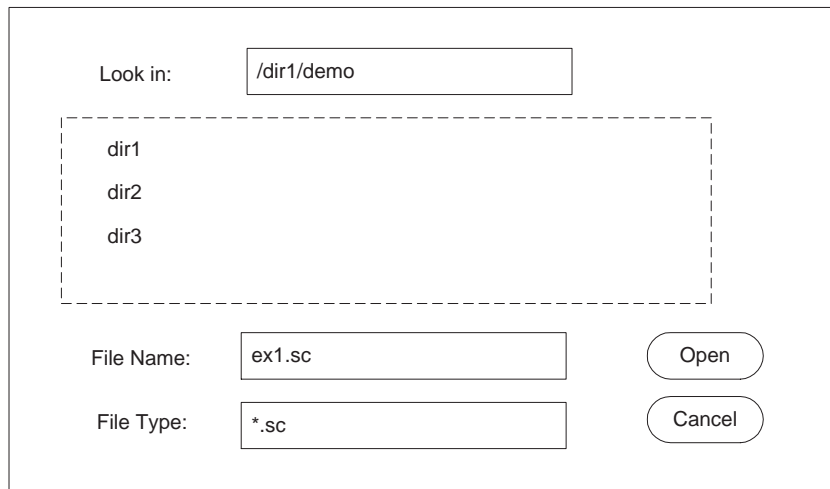

Figure 20: File Open dialog.
- (a) Selecting *Main :: File ⇒ Open* will pop up the File Open dialog in which the user can choose and select an existing file on disk to open and load. The File Open dialog is illustrated in Figure 20. The solid rectangular represents the edit box. The dashed rectangular represents the display box. The round rectangulars represent the buttons.